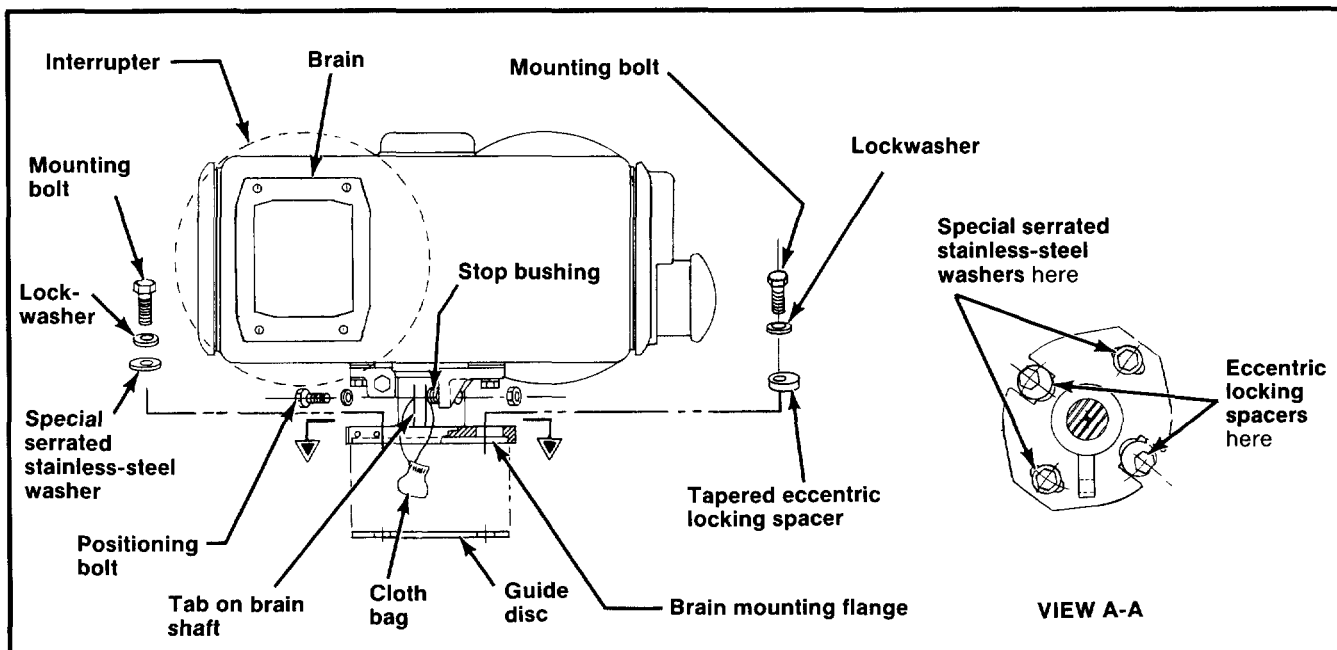

Figure 6. Brain mounting and adjustment-holding device detail.
- (b) At the brain mounting flange, remove the two mounting bolts associated with the eccentric locking spacers. See Figure 6. Then loosen, but do not remove, the other two mounting bolts. Retain the eccentric locking spacers and the special serrated stainless-steel washers for later reassembly.
- (d) Remove the guide disc, now exposed, from the brain insulator support. See Figure 6.